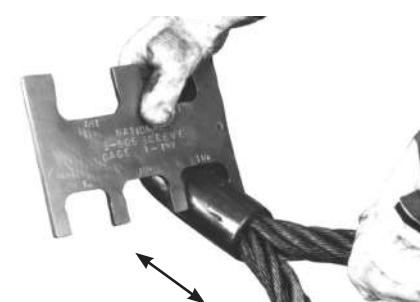

Figure 1
When swaged properly, the gauge will go up and down (see Figure 1) and around the full length of the fitting (see Figure 2). For the proper after swage dimensions, see the section in this publication for the specific product you are swaging.
1. The eye of the sling must be in the choked position (around live line). Choker hitch applications should comply with the requirements of ASME B30.9 Slings. Install the choker hitch to provide a minimum choke angle of 120 degrees (See Figure 1). Refer to ASME B30.9 for required de-rating of the sling if choke angle is less than 120 degrees.